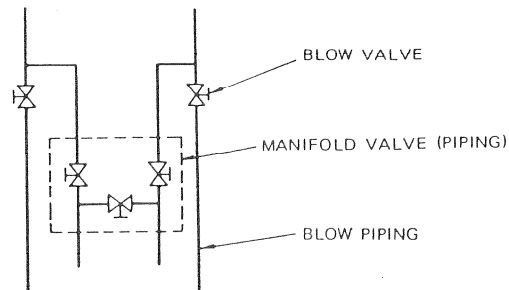

Figure 12. Blow Piping
2.1.2 When Blow Pipes are Provided (See Figure 12 of Section 5, Part "INSTALLATION.")